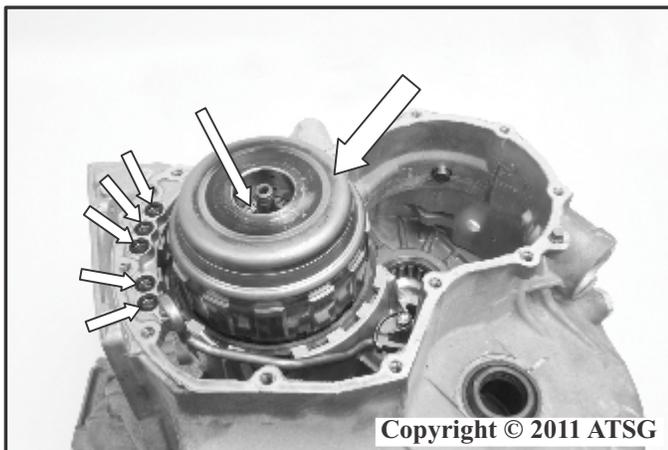

Figure 53
80. Remove and discard the five case fluid passage seals as shown in Figure 53.
81. Remove the forward (C1) and direct (C2) clutch housing thrust bearing and thrust bearing race as shown in Figure 53.
82. Remove the forward (C1) and direct (C2) clutch housing as shown in Figure 53 and set aside for cleaning and component rebuild.